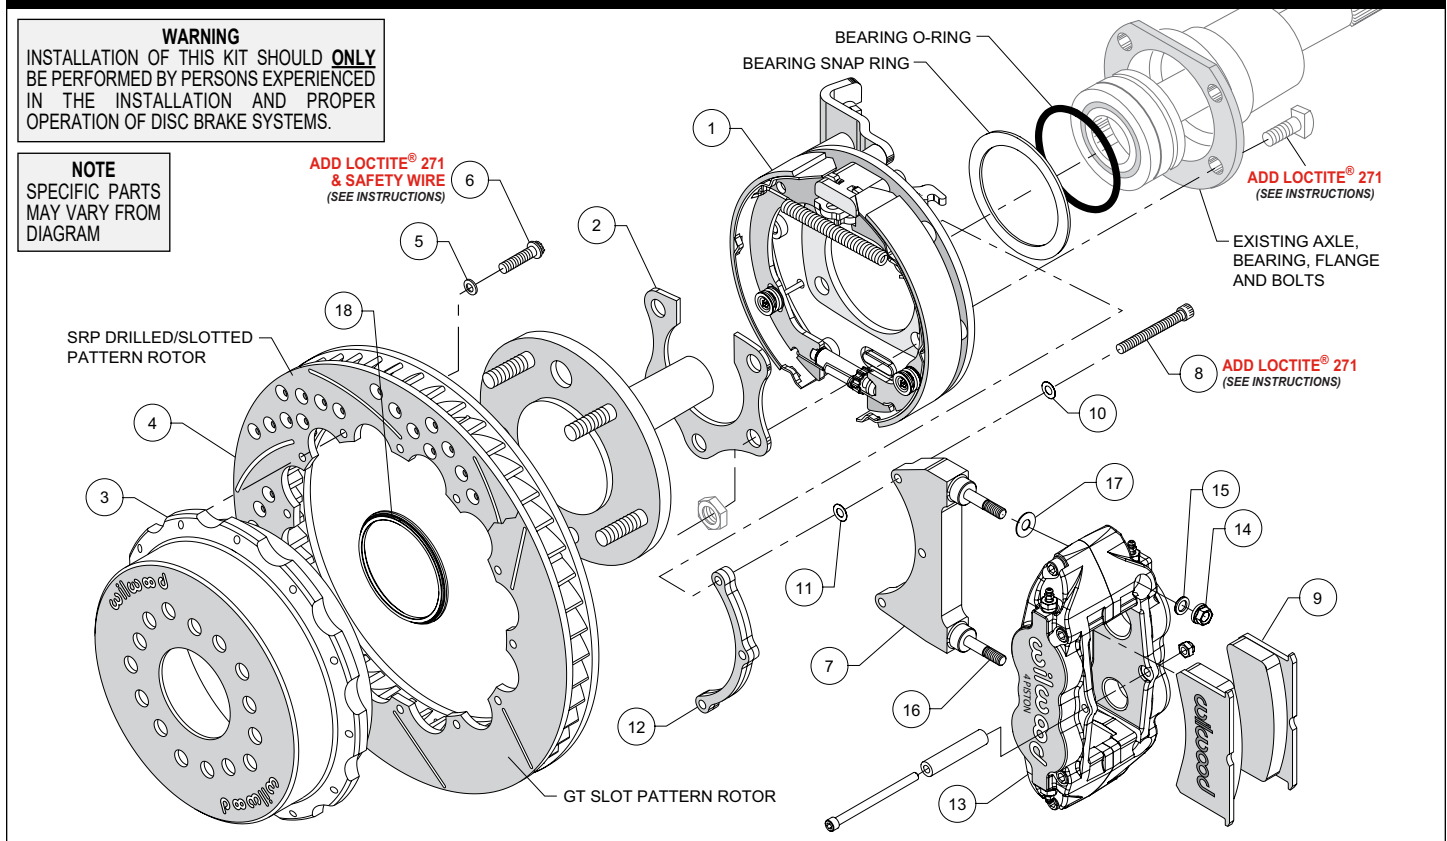
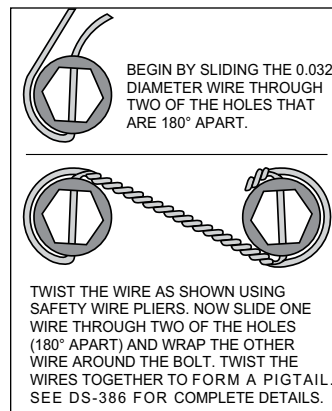

Figure 3. Typical Installation Configuration
Figure 7.
NOTE: Numbers in parenthesis refer to the parts list and Figure 3 on the preceding pages.
bracket assembly (1) as shown in Figure 3 and Photo 1 and slide it onto the axle and past the bearing. Reinstall the snap ring and o-ring onto the bearing, again using care. Insert the axle and bracket into the axle housing. Ensure that the bracket assembly backing plate fits flush against the axle housing flange. **NOTE:** The bearing snap ring should be sandwiched between the axle housing flange and the new bracket assembly.
- Install the bearing retainer (2) with the opening pointing upward and the bearing relief step facing inward (toward the bearing), as shown in Figures 3 and 6, and Photo 2. Secure retainer and bracket assembly to the axle housing flange using the Original
Equipment Manufacturer (OEM) bolts and nuts, Figure 3. Apply red *Loctite*® 271 to the OEM bolt threads and torque to OEM specifications.
•**NOTE:** Please reference the caution statement at the beginning of the assembly instructions. The caliper mounting bracket (7) should initially be installed with clean, dry threads on the mounting bolts. Orient the bracket as shown in Figure 3, and install using bolts (8) and flat washers (10). Initially place one .015" shim washer (11) on each bolt between the bracket (7) and spacer (12), Figure 3. Temporarily tighten the mounting bolts. **NOTE:** End of bolt should not exceed inside face of insert. The bracket must tighten squarely against the back side of the bracket kit assembly (1). Inspect for interference from casting irregularities, machining ridges, burrs, etc. Later, after the caliper alignment has been checked, the mount bolts will be secured using red *Loctite*®.
•Orient the rotor (4) and the hat (3) as shown in Figure 3 and Photo 3. Attach rotor to hat using bolts (6) and washers (5). Apply red *Loctite*® 271 to the bolt threads and torque bolts to 155 **in-lb.** using a criss-cross pattern. For an added measure of security, the bolts may be safety wired using standard 0.032 inch diameter stainless steel safety wire as shown in Figure 7. Please refer to Wilwood's data sheet DS-386 (available at www.wilwood.com/Pdf/DataSheets/ds386.pdf) for complete safety wire installation instructions.
•Slide the rotor registration adapter (18) onto the axle register on the axle flange with the smaller O.D. facing toward the rotor/hat (4 and 3), Photo 4. Align the correct hole pattern in the hat with the stud pattern on the axle flange and slide the rotor/hat (4 and 3) assembly into place, Figure 3 and Photo 5. **NOTE:** The rotor/hat must fit flush against the axle flange or excessive rotor run out may result. Install three lug nuts (finger tight) to keep the rotor/hat assembly in place while continuing with the installation. **NOTE:** Some OEM and after market axles come with stud sizes larger than 0.50" diameter. Verify stud size and have a qualified machine shop drill the bolt circle of the hat/rotor to the correct stud size, if necessary.
•Initially place one .035" thick shim (17) on each stud as shown in Figure 3, and Photo 6. Mount the caliper (13) onto the bracket (7) using lock nuts (14) and washers (15), Figure 3. Temporarily tighten the lock nuts and view the rotor (4) through the top opening of the caliper. The rotor should be centered in the caliper, Photo 7. If not, adjust by adding or subtracting shims (11) between the bracket (7) and the spacer (12). Always use the same amount of shims on each of the three mounting bolts. **NOTE:** The ends of the mounting bolts must fully engage, but not exceed, the inside face of the clinch nuts in the backing plate. If needed, add or